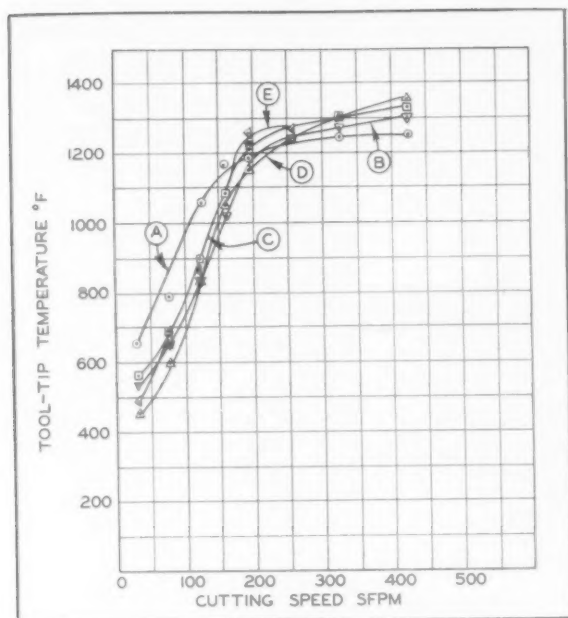

Fig. 5. Temperature increases with depth of cut as seen here, with depth of 0.0104 in. in speed vs. temperature plotting.
3. At any given speed, as the depth of cut is increased, the coolant becomes less effective. The extreme case of this condition is shown in Fig. 5 (depth of cut = 0.0104 in/rev), where the cutting temperature is only slightly reduced by the fluid over the entire range of speeds. The cooling properties of fluids become less effective (and their effect less significant) as the rate of heat generation increases.